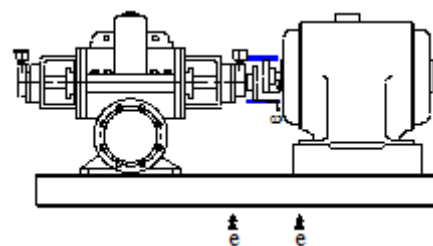
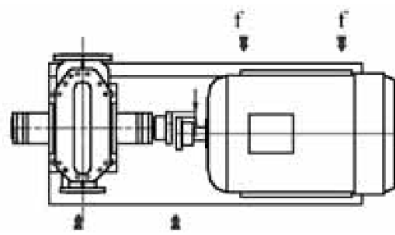

Figure 6: Parallel Axis Misalignment in Vertical Plane and Its Correction
Figure 8: Parallel Axis Misalignment in Horizontal Plane and Its Correction
2. Angular Misalignment (Figure 6-Figure 8)